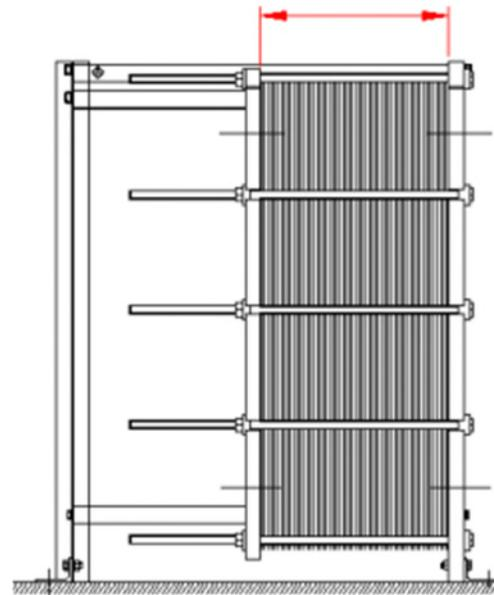

Figure 42: Step 6 – maximum platage
- 6) Tighten the heat exchanger to the maximum plate dimension specified on the plate arrangement diagram. The dimension must be the same at all tie bars (**Figure 42**).
Prior to startup, ensure the equipment is correctly assembled and the piping connected properly. Also, check that the plates have been compressed to the correct dimension specified on the customer drawing (**Figure 42** and refer to Section 9.0).